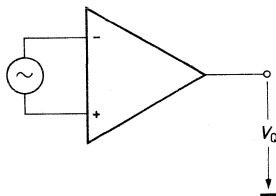

Figure 3
d) Open-loop voltage gain G_{V0} is the amplification without feedback (fig. 3).